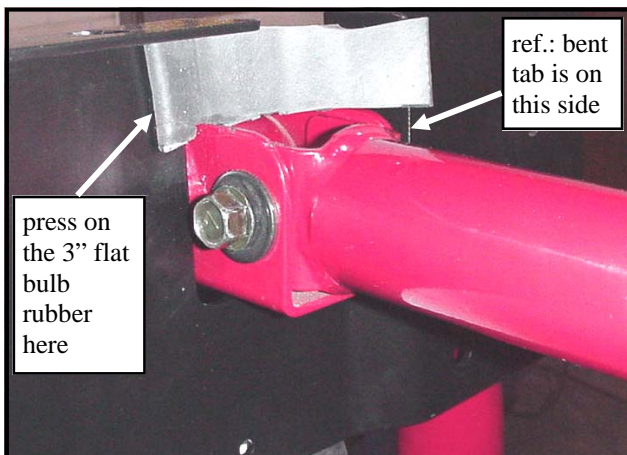

Fig. 8.1 (inside view of upper rear cab bar tube on driver's side)
8.1 Install the small piece of 3" flat bulb rubber on the sheet metal edge of the flat part of the opening in the rear roof mount as shown in Fig. 8.1. NOTE: the loose end of the bulb rubber should rest against the inside surface of the bent tab as shown in Fig. 8.1. (This serves to close the air gap above the cab bar.)